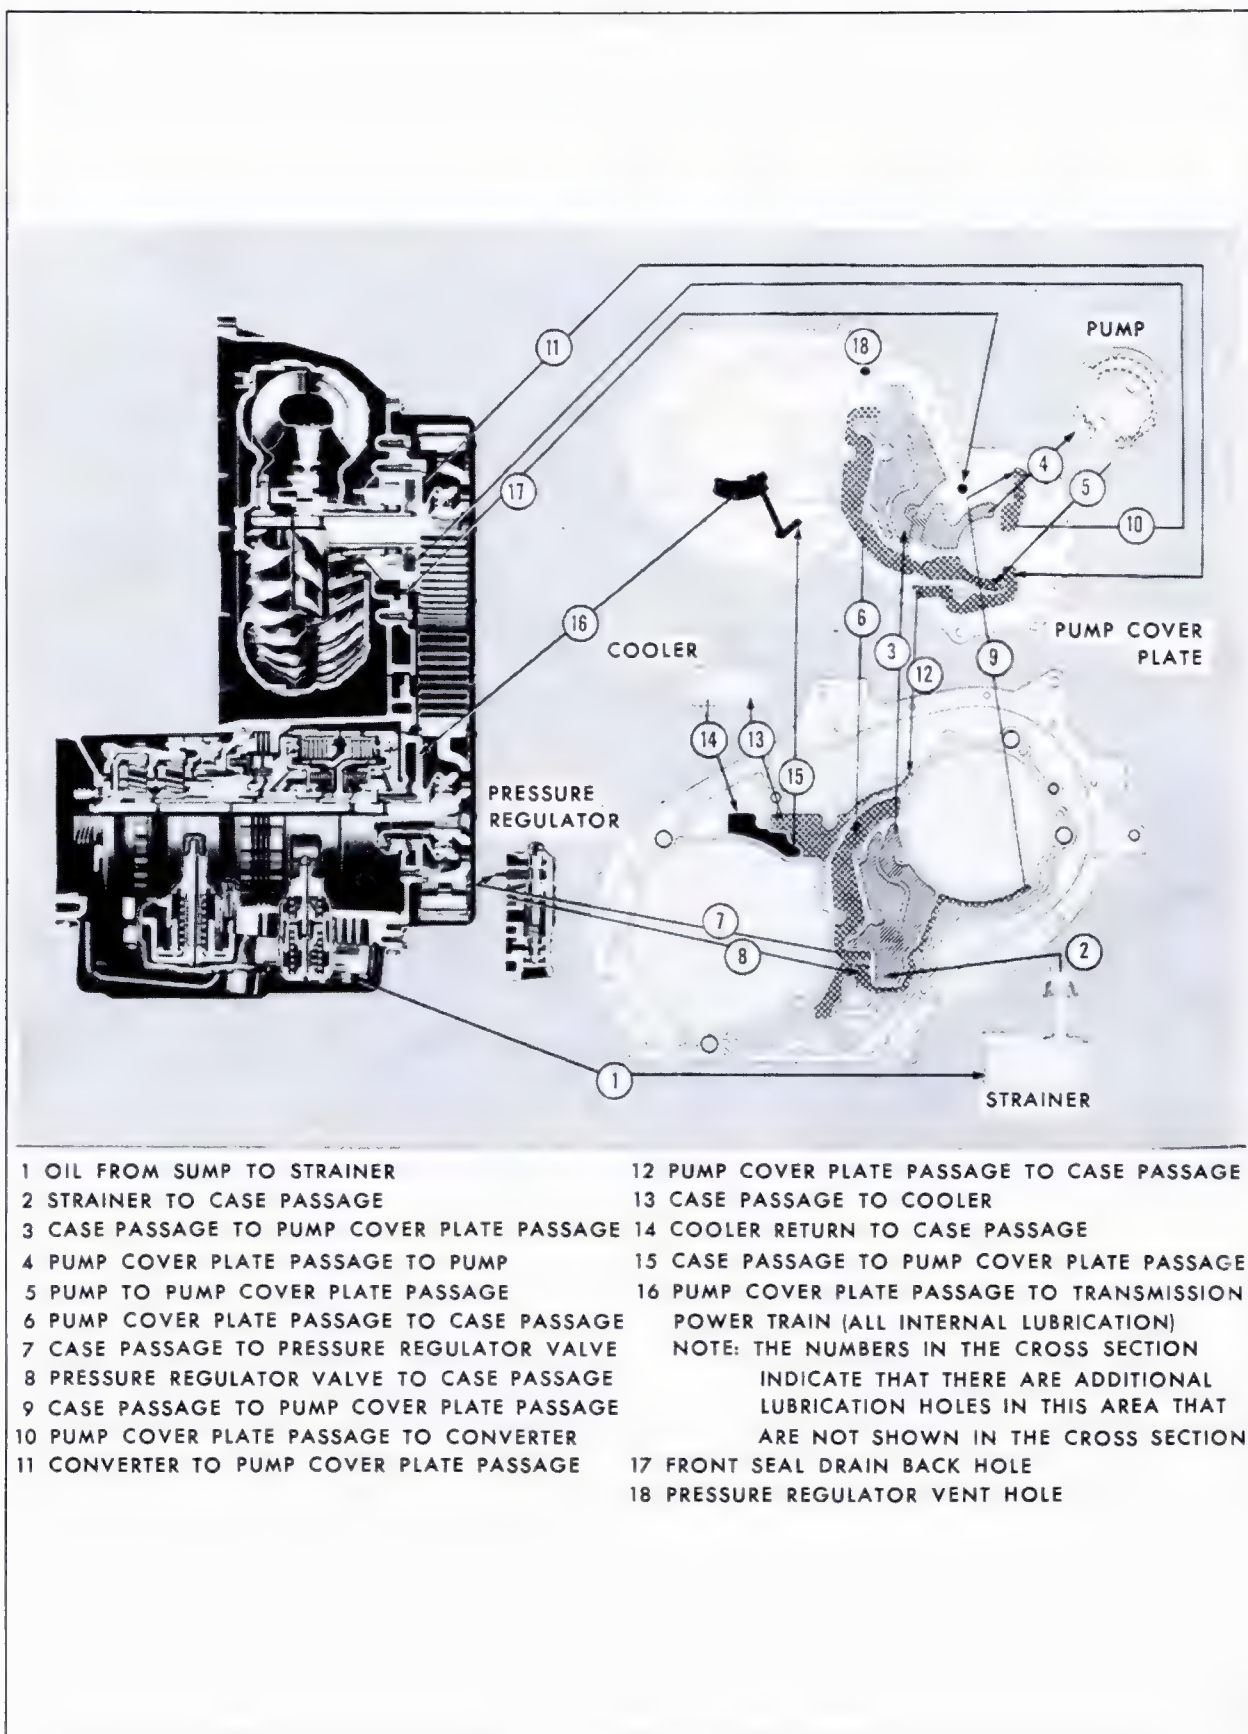

Fig. 7-141 Lubrication Chart
1. Figures 7-141 through 7-145 are to be used in place of Figures 7-24, 7-26 and 7-27 when diagnosing a Fleetwood Eldorado Turbo Hydra-matic transmission.